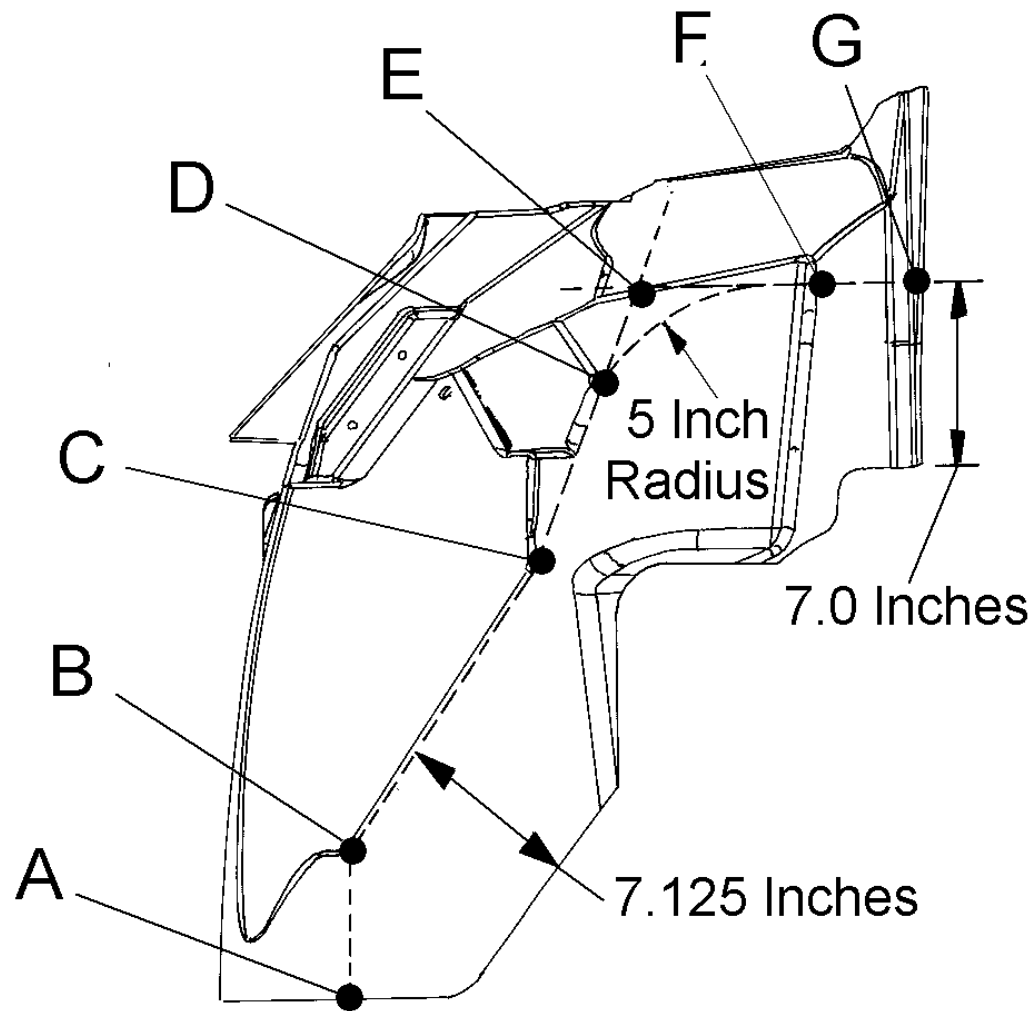
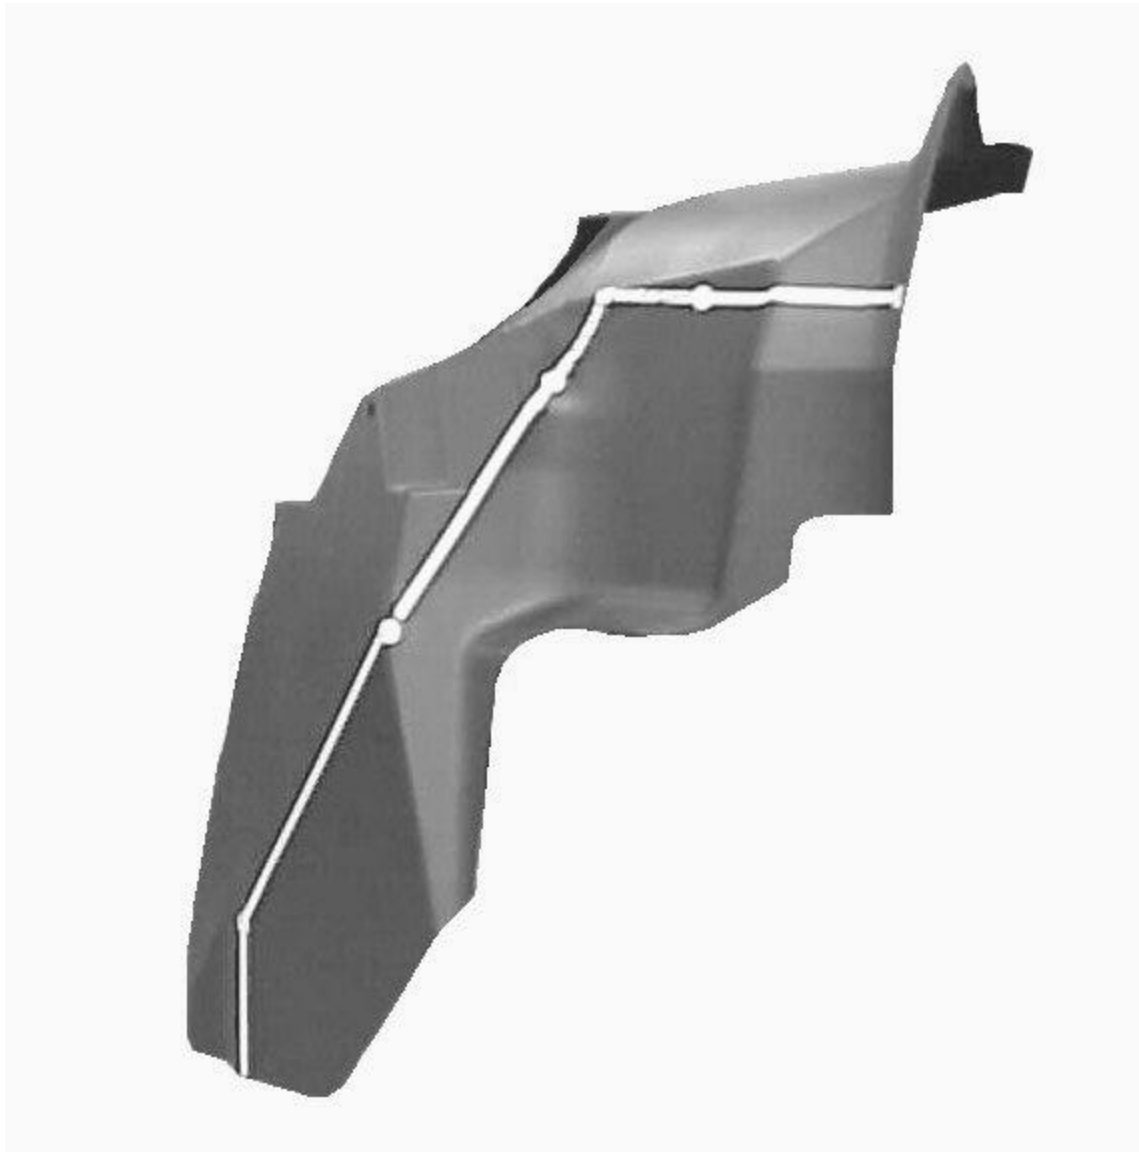
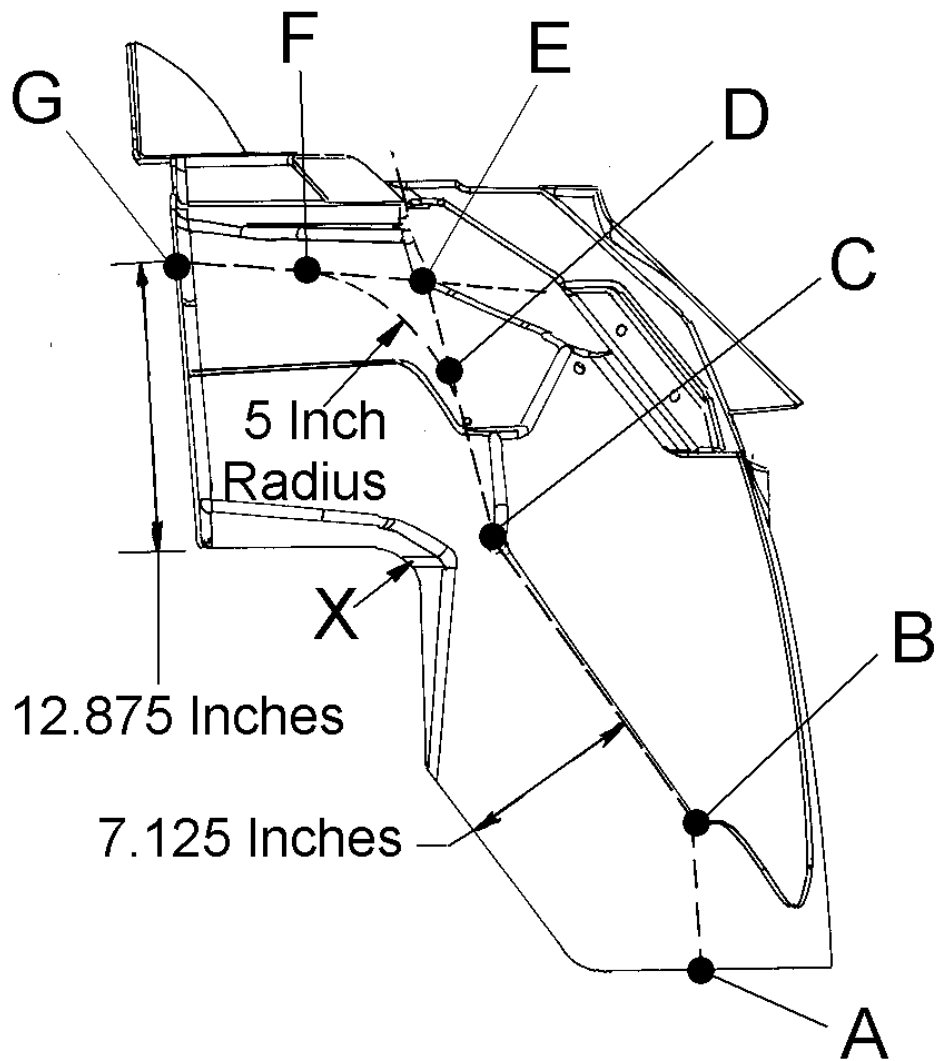

Figure 5 Fender Extension Layout- Drivers Side
Figure 6 Fender Extension Ready for Modification
Figure 7 Fender Extension Layout- Passenger Side
10. Use Figure 5 (driver side) and Figure 7 (passenger side) to layout or mark the area to be removed on the convex side (surface on the frame rail side or car line side) of the fender extensions.
- Set up the fender extension in car line position as shown in Figure 5 and Figure 6.
- Locate and mark points B and C along the contour break line at 7.125 inches from the edge (Figure 5).
- Locate and mark a vertical line from the bottom edge at point A through point B (Figure 5).
- Locate and mark horizontal line E-G 7.0 inches from the edge as shown in Figure 5.
- Locate and mark line C-E following the contour break lines as shown in Figure 5.
- Locate and mark a 5 inch radius between line C-E and E-G (Figure 5). Points D and F are the tangent points or blend points of the 5 inch radius.
- Set up the fender extension in car line position as shown in Figure 7 and Figure 8.
- Locate and mark line B-C along the contour break line at 7.125 inches from the edge as shown in Figure 7.
- Locate and mark a vertical line from the edge at point A to point B following along the contour break line (Figure 7).
- Locate and mark line C-E along the contour break line (Figure 7).
- Locate and mark point G, 12.875 inches from the edge as shown in Figure 7.
- Relocate point E, along line C-E, so that it is approximately 11 inches from the inside radius noted with a X in Figure 7.
- Mark a straight line between points E and G (Figure 7).
- Locate and mark a 5 inch radius between line C-E and E-G (Figure 7). Points D and F are the tangent points or blend points of the 5 inch radius.